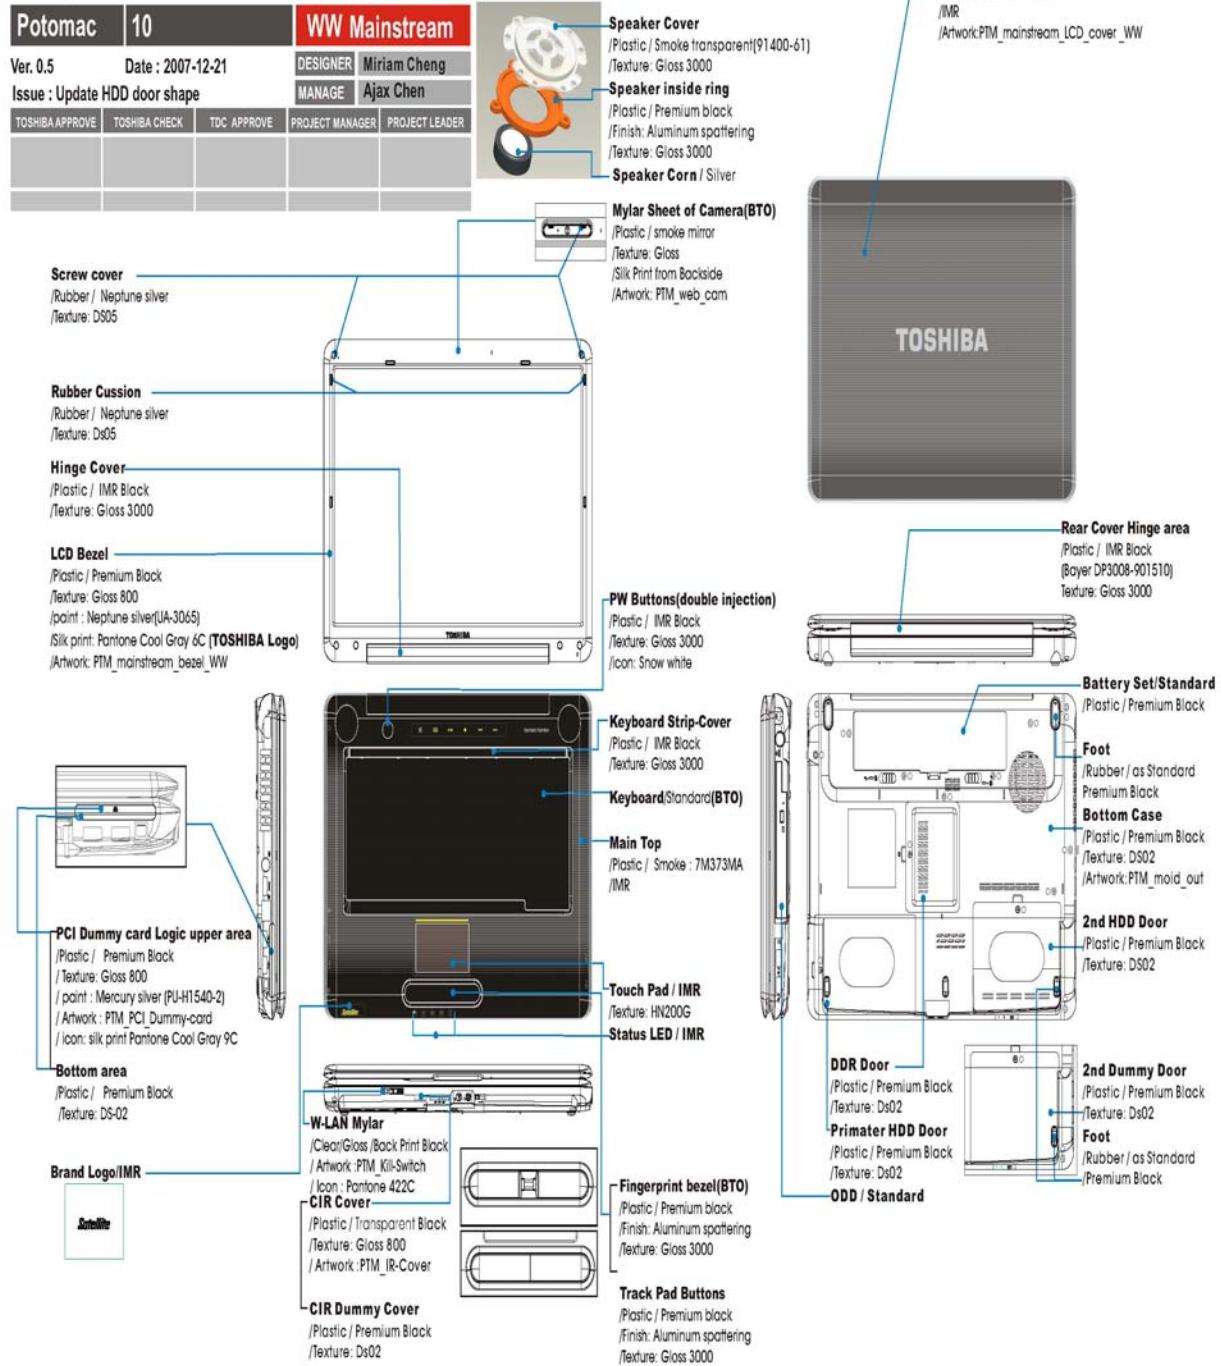

Figure 1-1 ID Parts Description Placement
- Figures 1-1/1-2/1-3 and 1-4 show the computer and its system unit configuration, respectively.